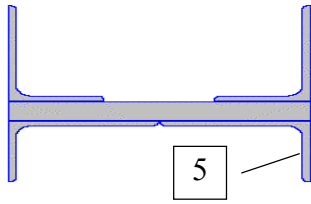

Fig. 47. The net result after the fourth angle is set
- ☞ press the **Add** button; the angle will be positioned as shown in Fig. 47;